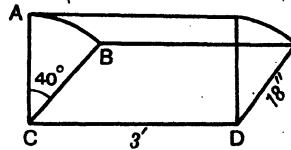

FIG. 31. HOPPER WINDOW
5. A hopper window, 3 ft. by 18 in., swings inward about its lower edge, CD. If the angle is 40° , find the length of the arc AB and the area of glass in the side cheek ABC, Fig. 31. (The side openings are protected by glass screens.)